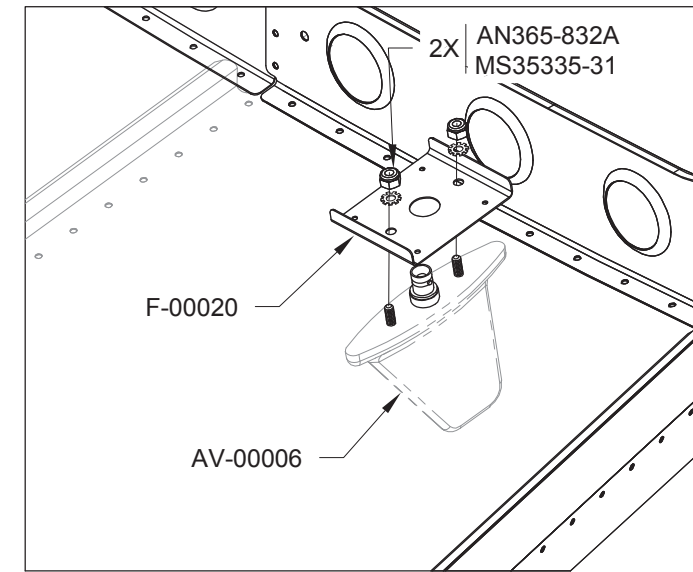

FIGURE 2: INSTALLING THE UAT ANTENNA (BOTTOM SKIN SHOWN TRANSPARENT)
Step 3: Install the AV-00006 Blade ADS-B Antenna to the F-00020 Antenna Doubler and F-1282-L Bottom Left Skin using the instructions and hardware supplied with the antenna. See Figure 2.